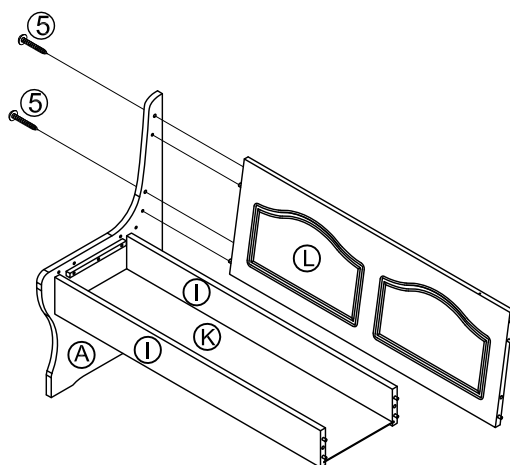

FIGURE 3.3
- 3.3 WITH MIDDLE LEG #A PLACED ON FLOOR. ATTACH DOUBLE BENCH BACK REST #L TO MIDDLE LEG #A. USING PRE-DRILLED HOLES AS GUIDE, USING (02) SCREWS ⑤ AND PHILLIPS HEAD SCREWDRIVER (NOT PROVIDED), AS SHOWN IN FIGURE 3.3